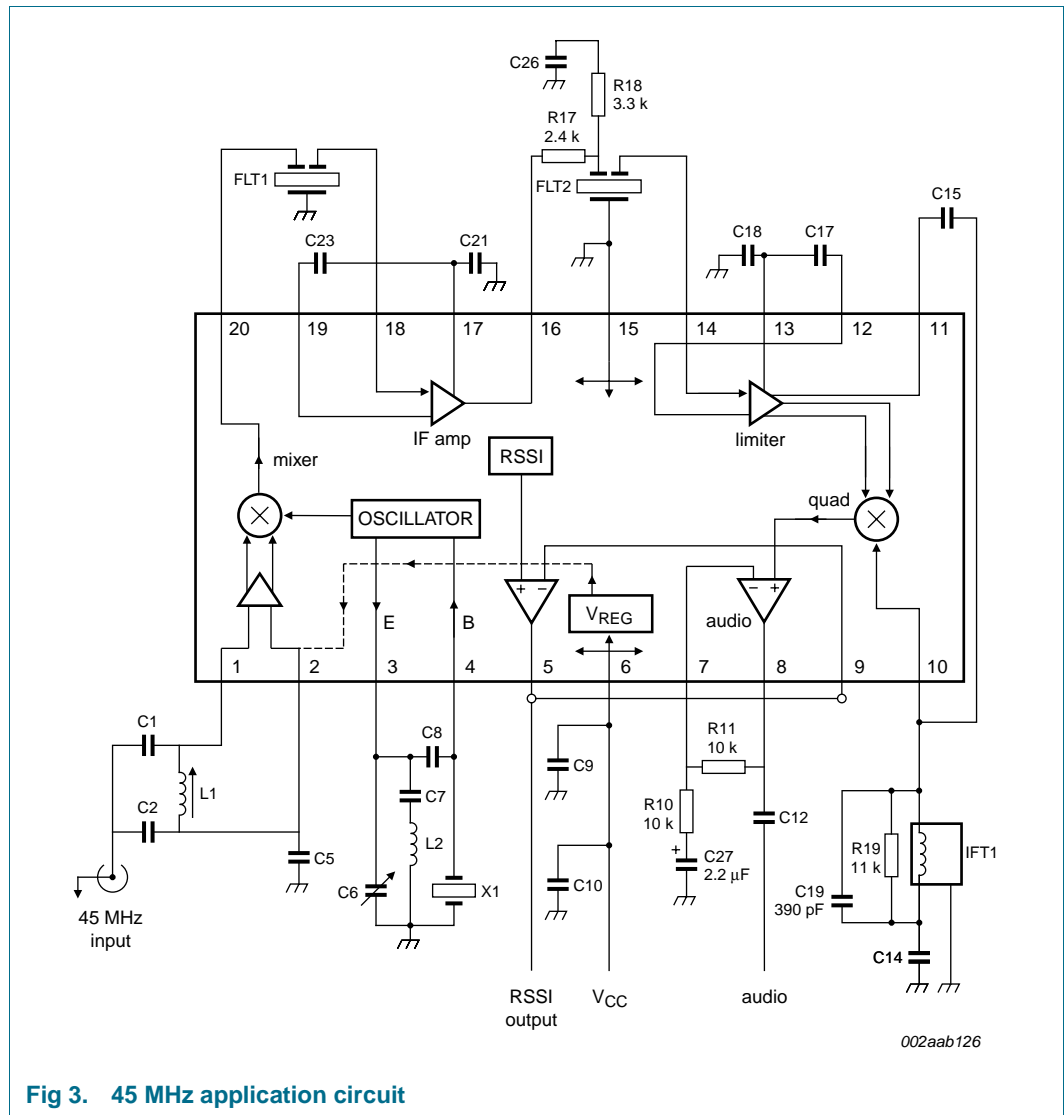

Fig 3. 45 MHz application circuit
- [1] RF frequency = 45 MHz; +14.5 dBV RF input step-up; IF frequency = 455 kHz; R17 = 2.4 k $\Omega$  and R18 = 3.3 k $\Omega$ ; RF level = -45 dBm; FM modulation = 1 kHz with  $\pm 5$  kHz peak deviation. Audio output with de-emphasis filter and C-message weighted filter. See Figure 3 "45 MHz application circuit" on page 7. The parameters listed above are tested using automatic test equipment to assure consistent electrical characteristics. The limits do not represent the ultimate performance limits of the device. Use of an optimized RF layout will improve many of the listed parameters.